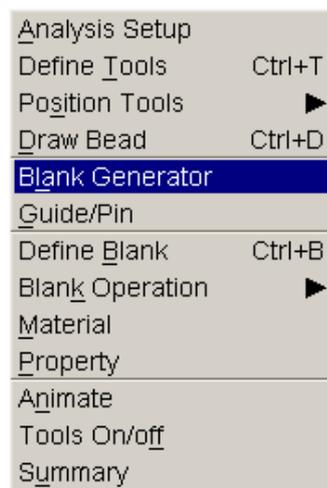

Figure 5.5 Blank generator menu
2. Select **Tools**→**Blank Generator**→**BOUNDARY LINE**. See Figures 5.5.